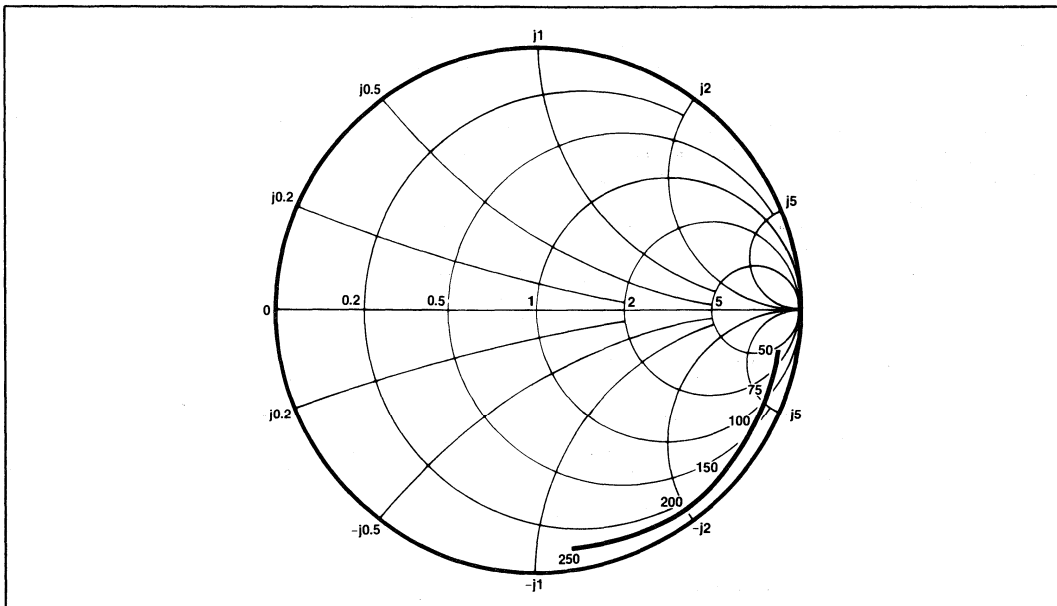

Fig.6 Typical input impedance. Test conditions: supply voltage 5.2V, ambient temperature 25°C, frequencies in MHz, impedances normalised to 50 ohms.
5. Input impedance is a function of frequency. See Fig.6.